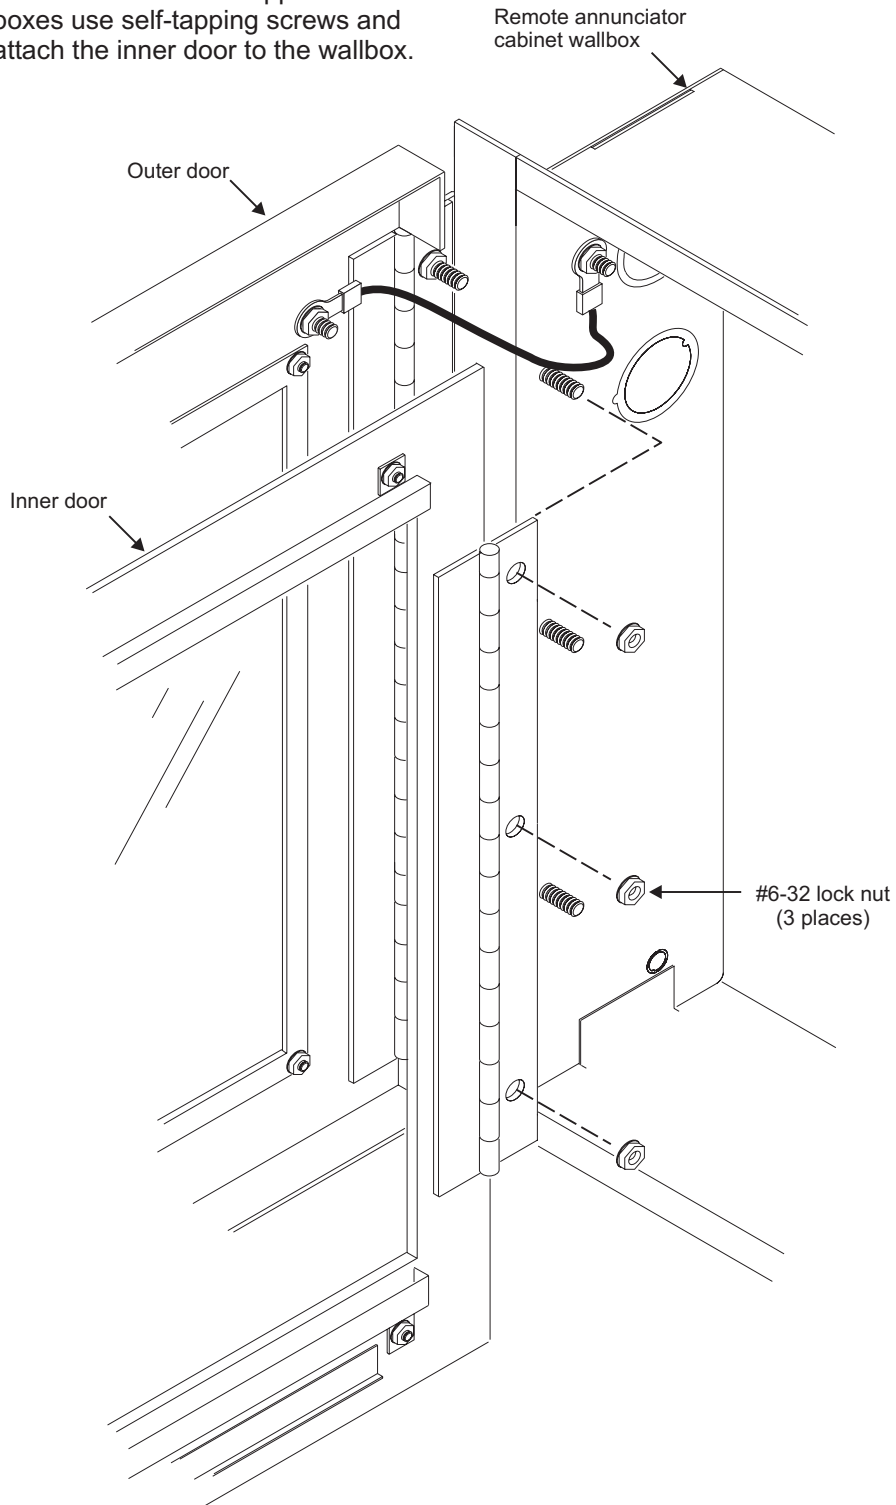

Figure-2: Typical inner door installation (semi-flush mount wallbox shown)
Note: Figure-2 shows how the inner door attaches to a wallbox designed for semi-flush mount applications. Surface mount wallboxes use self-tapping screws and pre-drilled holes to attach the inner door to the wallbox.
3. On semi-flush mounted wallboxes attach the inner door to the inner door mounting studs. See Figure-2. On surface mounted wallboxes screw the inner door to the mounting holes.